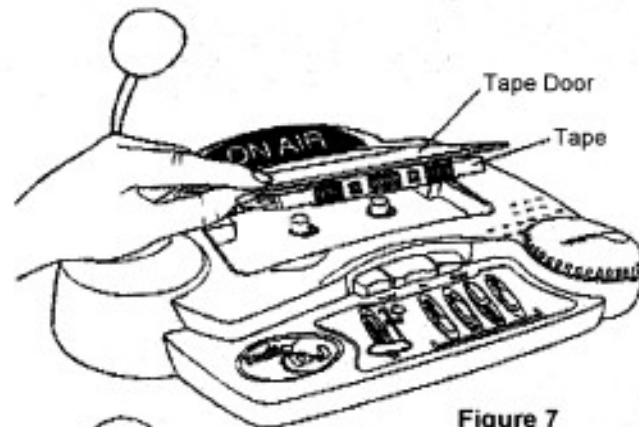

Figure 7
There are four sound effects buttons you can use when broadcasting over the radio. To use these buttons: (Figure 7)
2. Lift tape deck door with your fingers and insert tape as shown. (Figure 7)